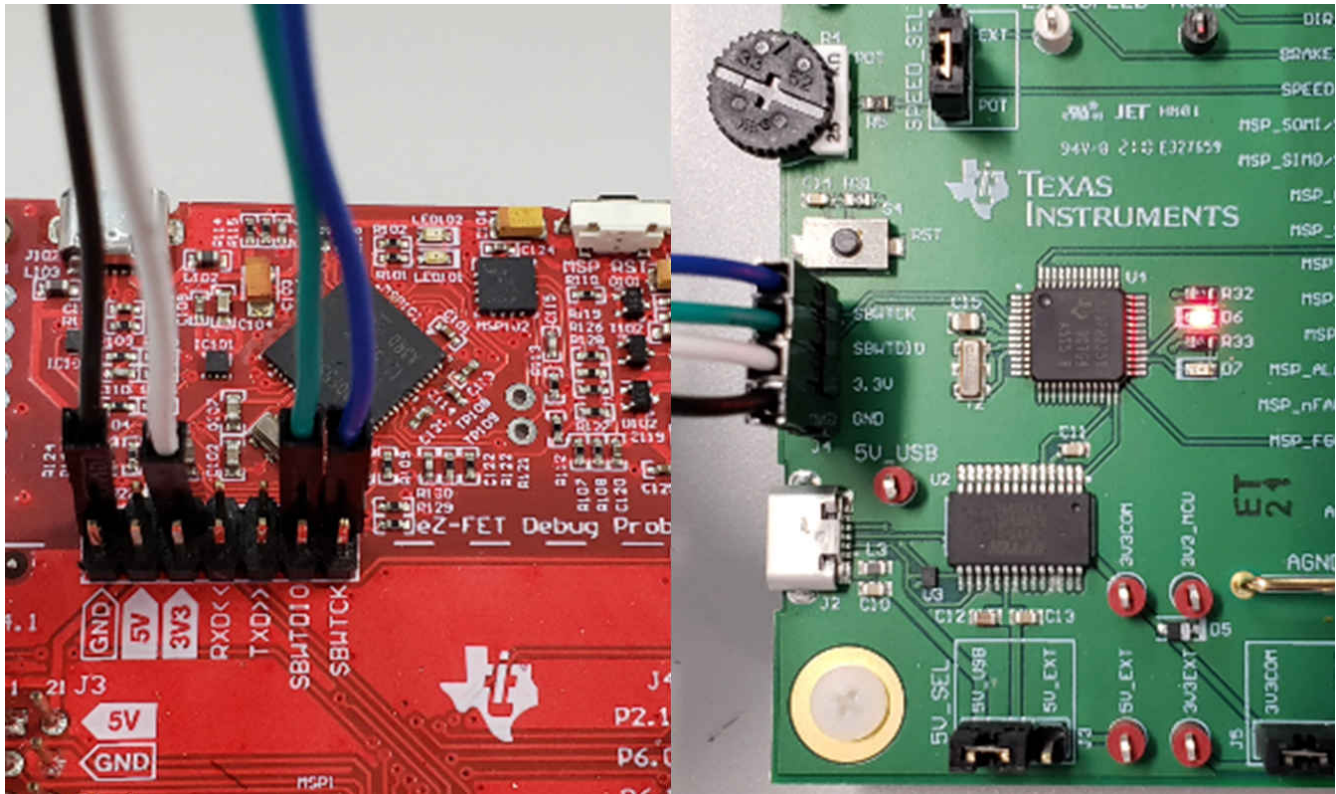

Figure 7-2. MSP430 LaunchPad™ eZ-FET Probe Connected to MCF8315EVM
2. Connect the top pins on the eZ-FET side of the LaunchPad of the GND, 3V3, SBWTDIO, and SBWTCK signals to their respective pins on J4 of the MCF8315EVM as shown in Table 7-1 and Figure 7-2.